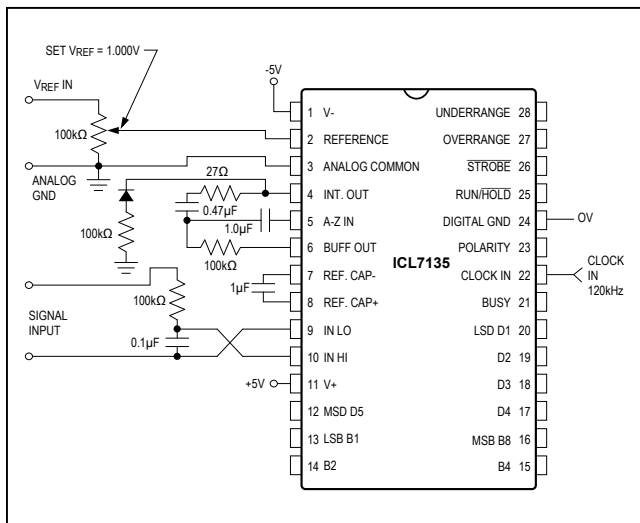

Figure 1. ICL7135 Test Circuit
**Note 1:** Tested in 41/2 digit (20,000 count) circuit shown in Figure 1, clock frequency 120kHz.
The ICL7135 is tested for rollover using the circuit of Figure 1, with the 100k $\Omega$  resistor and diode in the circuit. The diode is noncritical, and is typically a low cost 1N4148. The resistor value is dependent on many factors including integrator swing, clock frequency, and the amount of rollover error due to “charge suckout” on the reference capacitor. 100k $\Omega$  is the optimum value for most circuits and is the value used in testing the ICL7135.